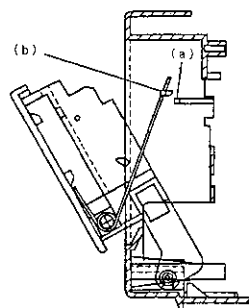
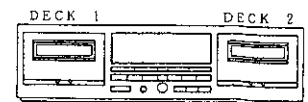

Fig. 7-2
Fig. 7-3
1. Attach the door spring at position (b) according to fig. 7-2. and stand the front panel assembly straight up as shown in fig. 7-3.